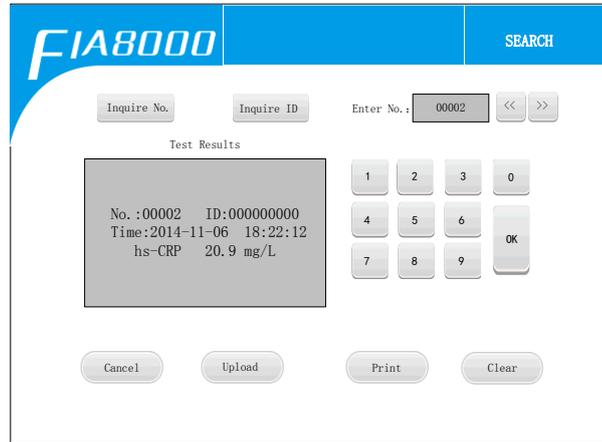

Fig.9 Number search interface
3. Click on the "OK" icon to begin search. Search result shown as Fig.9;